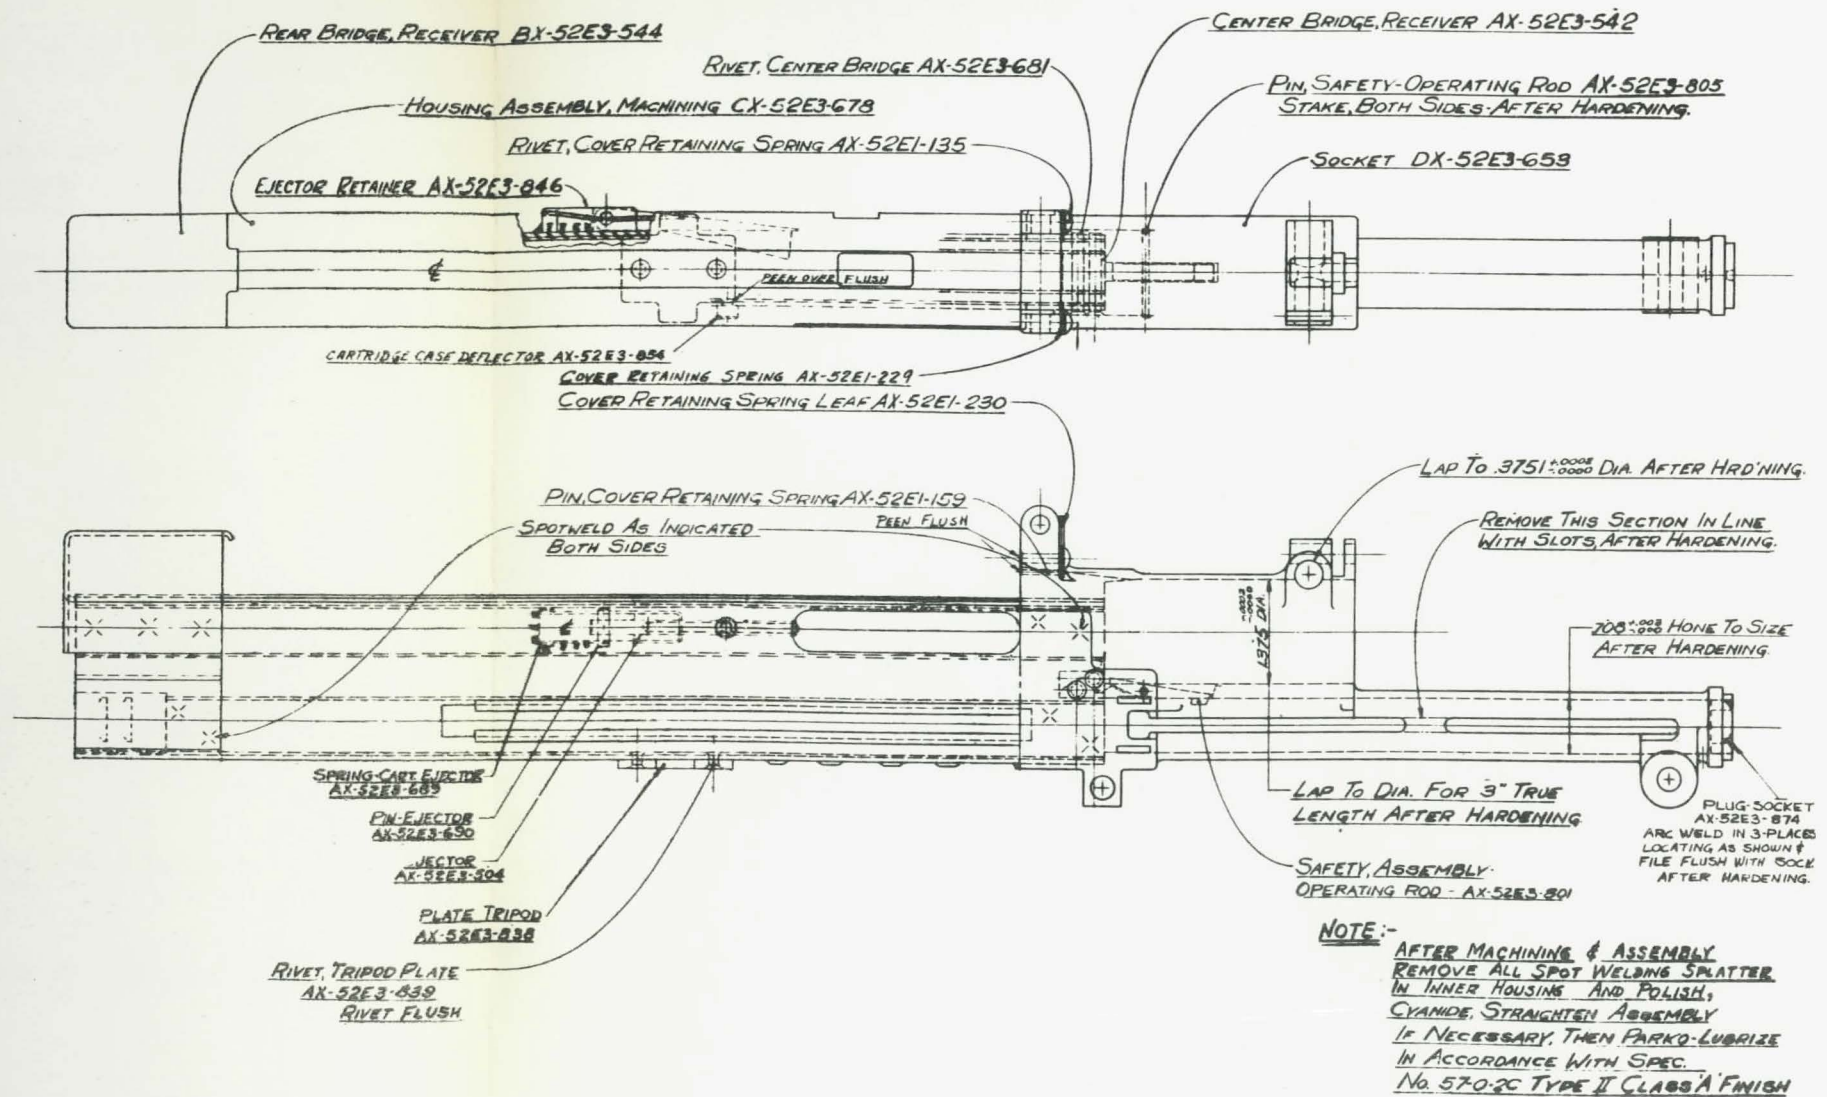

FIG. 13 - RECEIVER ASSEMBLY
- e. Locate operating rod safety assembly in retaining socket slot as indicated on receiver assembly Fig. 13, Page 32, then insert operating rod safety pin and stake both sides of housing to retain pin. This part removed for repairs only.
- d. Slam Cover shut. See Fig. 13, Page 32, and Fig. 14, Page 35.